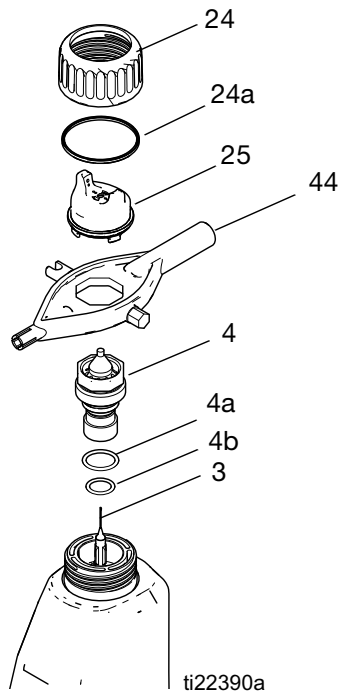

Fig. 23. Air Cap/Nozzle Replacement
2. Remove the retaining ring (24) and air cap (25). See FIGURE 23.
3. Remove the fluid nozzle (4) assembly with the multi-tool (44).